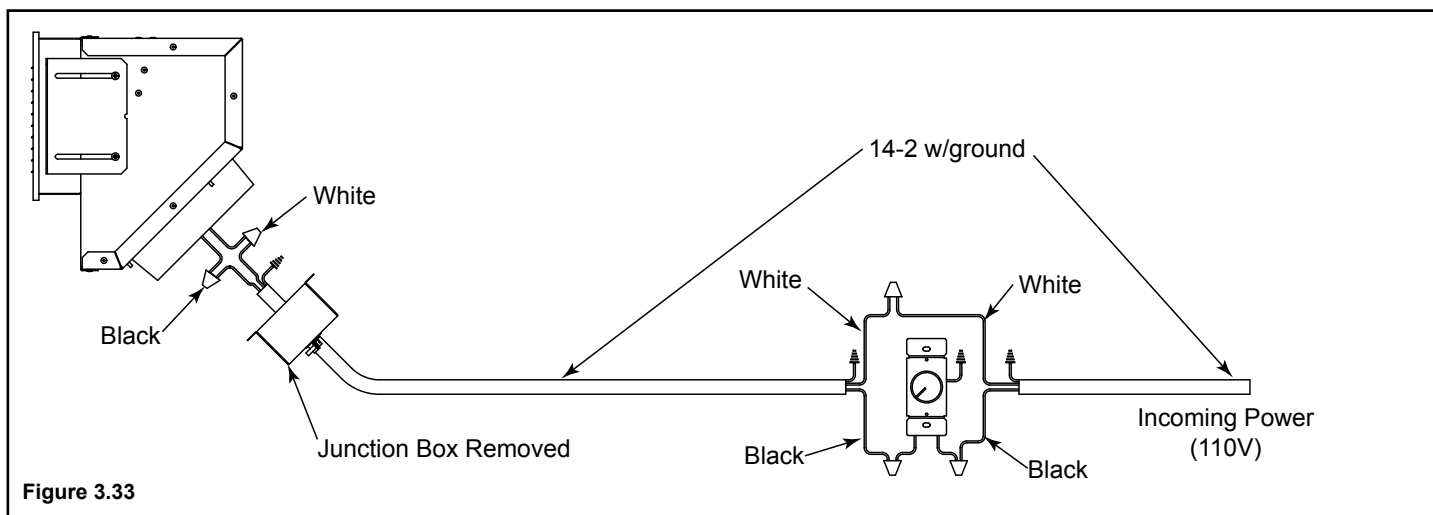

Figure 3.33
- Remove the junction box. Wire 110 VAC service TO the wall rheostat and FROM the wall rheostat to the fan junction box. Use wire nuts to secure the 110 VAC service wires to the hot (black) and neutral (white) fan wires and screw the 110 VAC ground wire to the junction box. See Figure 3.33.